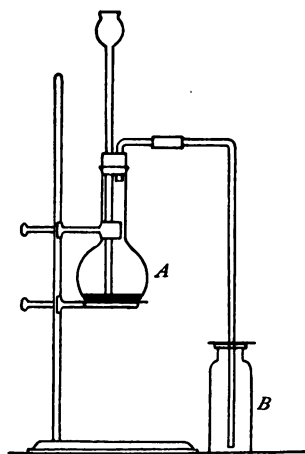

FIG. 33
**62. Preparation of chlorine.** (*All the following experiments must be performed in the hood, and great care taken not to inhale the gas.*) *a.* Place about 1 g. of manganese dioxide in a test tube, add 2 or 3 cc. of hydrochloric acid, and heat gently (R).
*c.* Repeat experiment *a*, replacing the hydrochloric acid with small amounts of common salt and sulfuric acid. The manganese dioxide and salt should first be mixed together and the sulfuric acid added to the mixture. Compare the reactions in *a* and *c* (R). Which of the two methods is the cheaper for preparing chlorine? Give reason for your answer.
*d. Usual laboratory method* (two students working together). Arrange an apparatus according to Fig. 33, using a 250-cc. flask. Thoroughly clean and dry five wide-mouthed bottles (250-cc.) for collecting the gas. Place in the flask from 20 to 25 g. of manganese dioxide. Insert the cork and pour 150 cc. of hydrochloric acid through the funnel tube. Shake the flask so as to thoroughly wet the